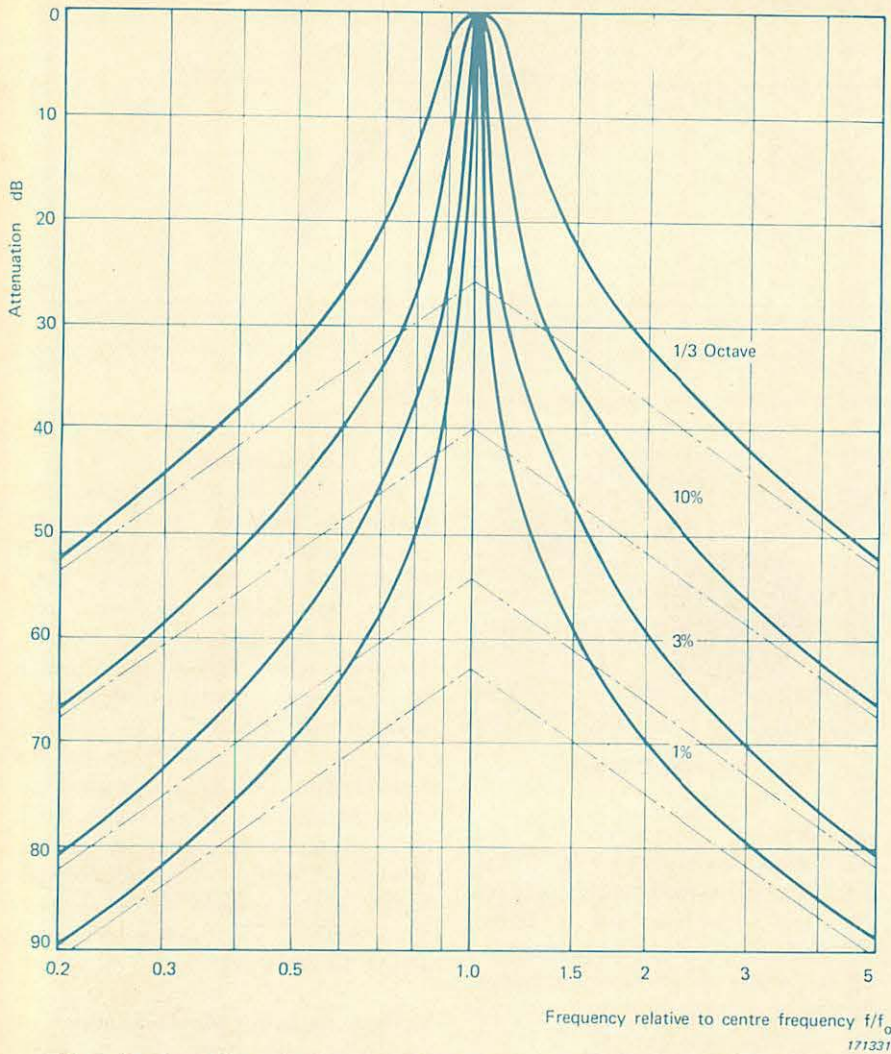

Fig. 6. Bandpass filter selectivity curves for the four constant percentage bandwidths
(1) **Bandpass Filter** is a narrow band filter with four constant relative bandwidths of 1%, 3%, 10% and 1/3 octave at the 3 dB attenuation level. In the "1%" and "3%" positions the filter consists of two single-pole butterworth filters in series; a 2-pole butterworth filter is selected in the "10%" and "1/3 Octave" positions. The octave selectivity is 70 dB, 60 dB, 45 dB, and 30 dB in the four bandwidth modes. The selectivity curves are shown in Fig. 6.